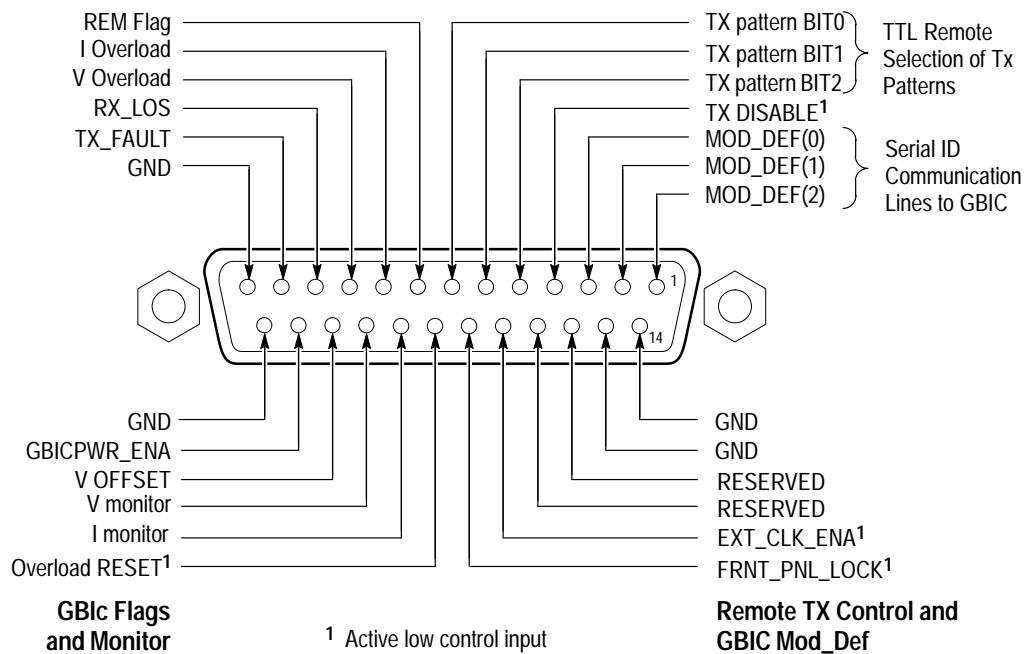

Figure 7: Rear Remote Interface connector pinout
GBIC Flags An industry standard GBIC outputs two digital flags and has one Tx enable/disable input. These flags are available on a rear-panel connector (see Figure 7). The following bullets describe the flags:
2. Using Table 4 on page 18 and Figure 7 on page 17 as a guide, connect the required TTL voltage levels for the desired patterns to the rear-panel Remote Interface.